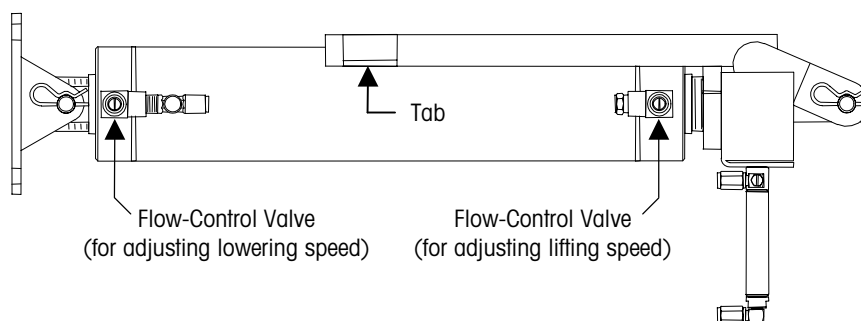

Figure 3-2: Air Cylinder Adjustments
1. When you install the air cylinders, make an initial adjustment of the flow control valves on the cylinders (see Figure 3-2). Turn the flow control valves on each main air cylinder clockwise until they are fully closed. Then open the valves by turning them counterclockwise approximately 3 to 4 turns.